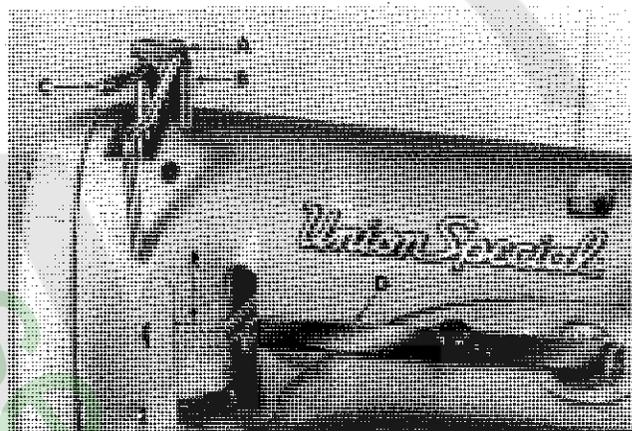

FIGURE 12
Regulate the presser spring regulating screw (A, Fig. 12) so that it exerts only enough pressure on the presser foot to feed the fabric uniformly when a slight tension is placed on the fabric. Turning it clockwise increases the pressure, counterclockwise acts the reverse.
Set the needle thread takeup wire (B, Fig. 12) so that it contacts the needle threads in the needle bar eyelet (C) when it reaches its lowest position. Lower this setting for a smaller needle thread loop and raise it for a larger loop. Set the needle thread frame eyelet (D) so that it is parallel and in line with the needle lever thread eyelet (E) when the needle bar is at the top of its stroke and starting its downward movement.